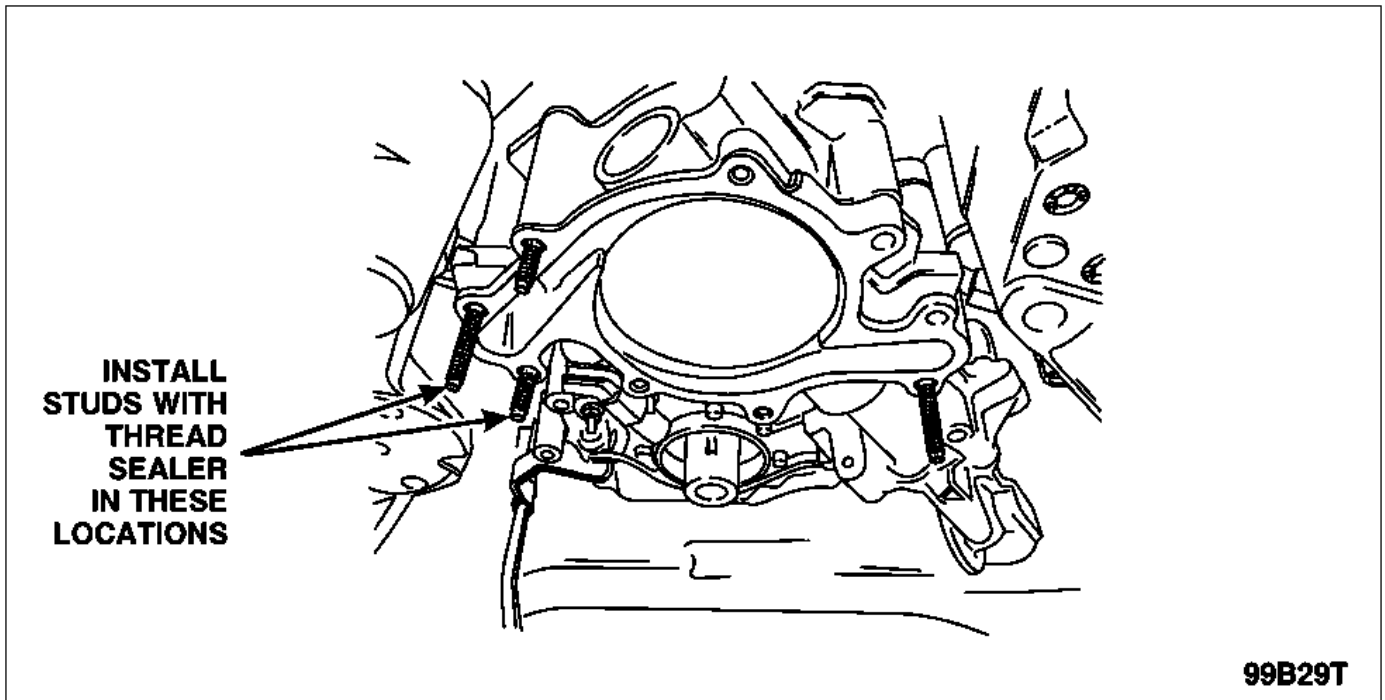

FIGURE 20
10. Install four (4) water pump studs in the locations shown in Figure 20. The two (2) studs with thread sealer must be installed in the proper positions. Using double nuts, tighten the studs to 7 Nm (62 lb-in). Remove the double nuts after the studs have been tightened.